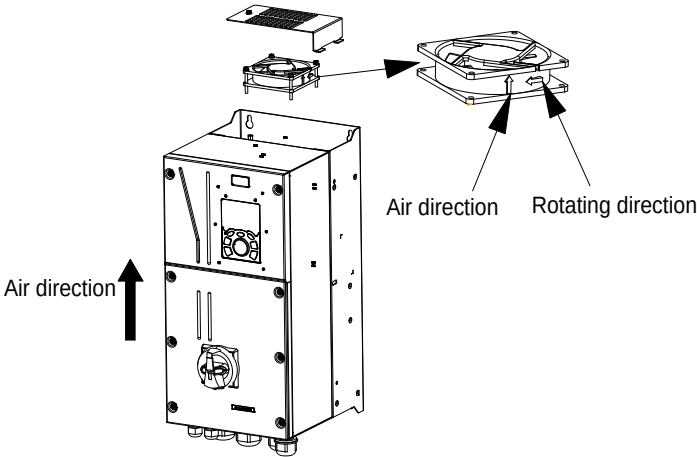

Figure 8-1 Fan maintenance for VFDs of 011P or higher
- 5. Install a new fan in the VFD in the reverse steps. Assemble the VFD. Ensure that the air direction of the fan is consistent with that of the VFD, as shown in the Figure 8-1.